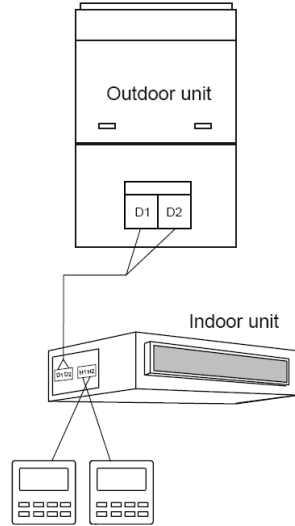

Fig. 3.4 Two wired controllers control one indoor unit
- (1) When one wired controller controls multiple indoor units simultaneously, the wired controller can connect to any one indoor unit, but the connected indoor unit must be the same series indoor unit. The total quantity of indoor unit controlled by wired controller can't exceed 16 sets, and the connected indoor unit must be within the same indoor unit's network. Wire controller must set quantity of group control indoor units. Please refer to 3.2.3 Parameters Setting.
- (2) When two wired controllers control one indoor unit, the addresses of those two wired controllers should be different. Please refer to 3.2.3 parameter setting.
- (3) When two wired controllers control multiple indoor units, wired controller can be connected to any one indoor unit, while the connected indoor unit should be the same series indoor unit. The addresses of those two wired controllers should be different. Please refer to 3.2.3 parameter setting. The total quantity of indoor unit controlled by wired controller can't be more than 16 sets and all connected indoor units must be within the same indoor unit network. Wire controller must set quantity of group control indoor units. Please refer to 3.2.3 Parameters Setting.
- (4) When one (or two) wired controller(s) control(s) multiple indoor units at the same time, the controlled indoor unit's setting should be the same.
- (5) Wiring of wired controller and indoor unit network must be according to one of the four wiring method as shown in fig 3.3-3.6. As for the connection method shown in fig 3.4 and 3.6, there should be only one master wired controller (address is 01) and